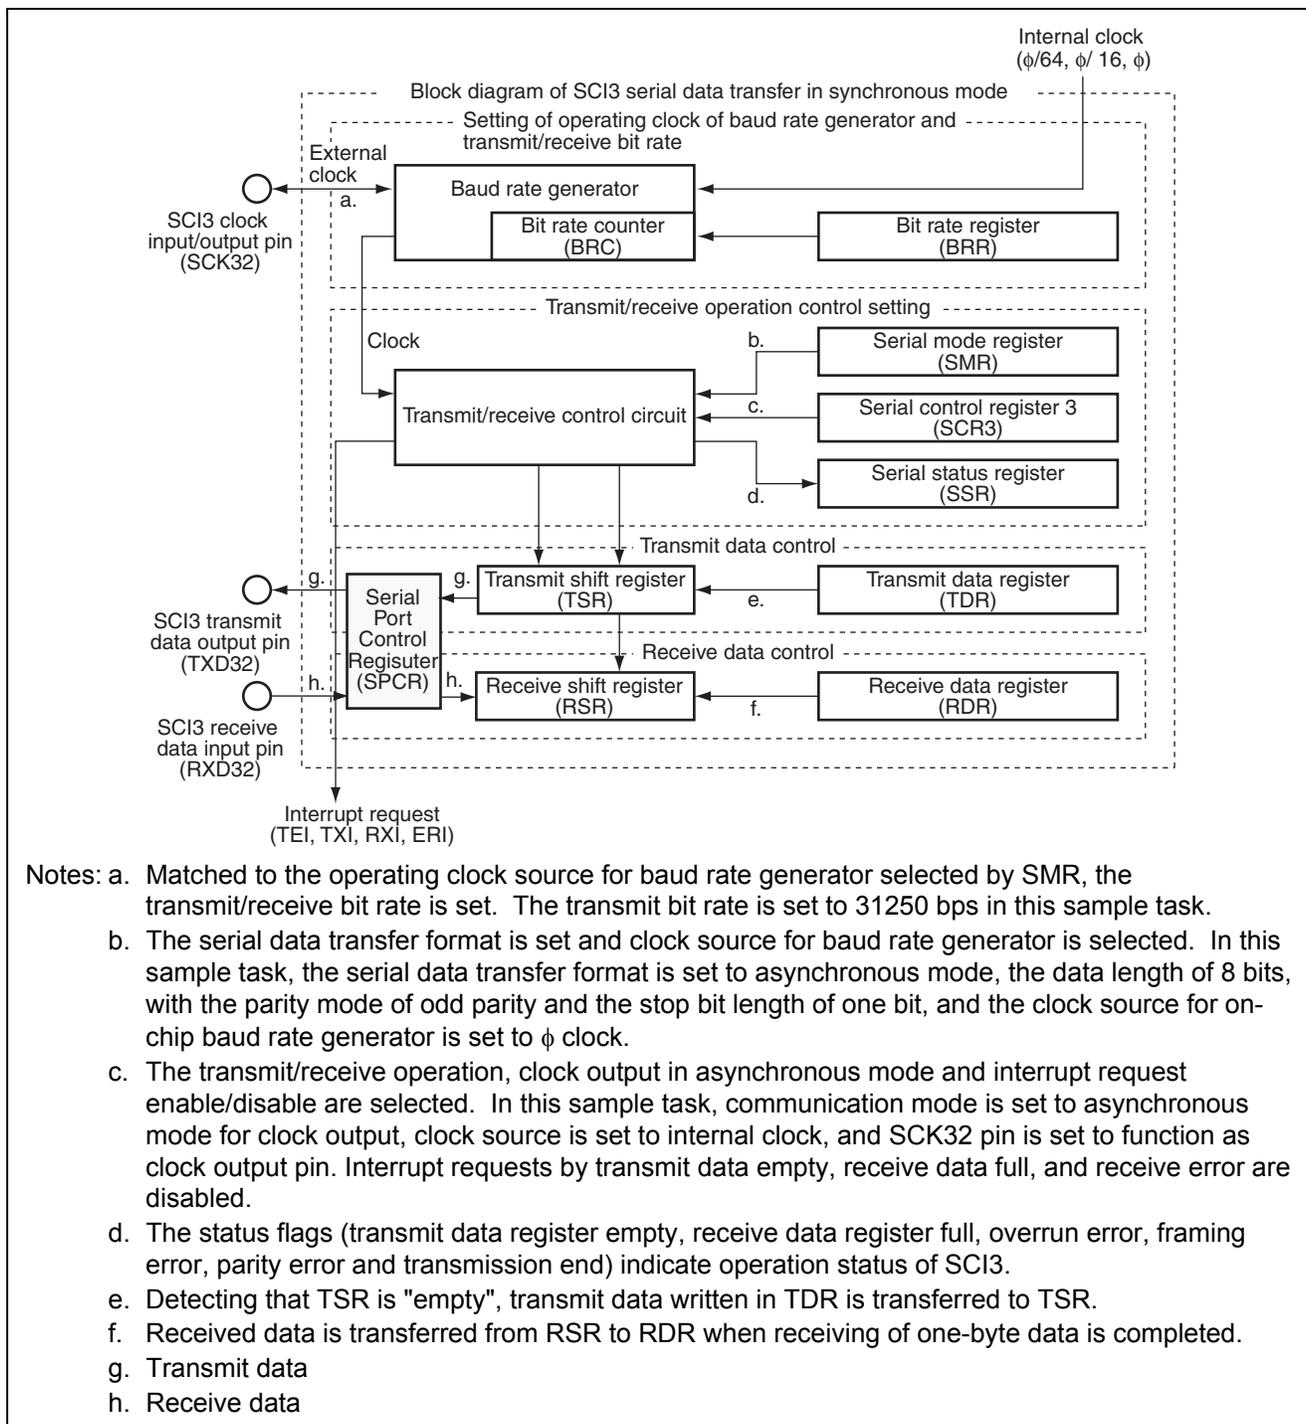

Figure 2.1 Block Diagram of Serial Data Reception in Asynchronous Mode
1. In this sample task, a Serial Communication Interface (SCI) is used for serial data reception in asynchronous mode. Figure 2.1 shows a block diagram of serial data reception in asynchronous mode which is described below.